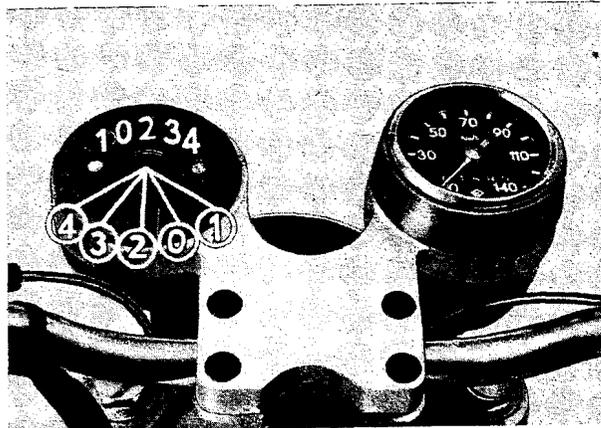
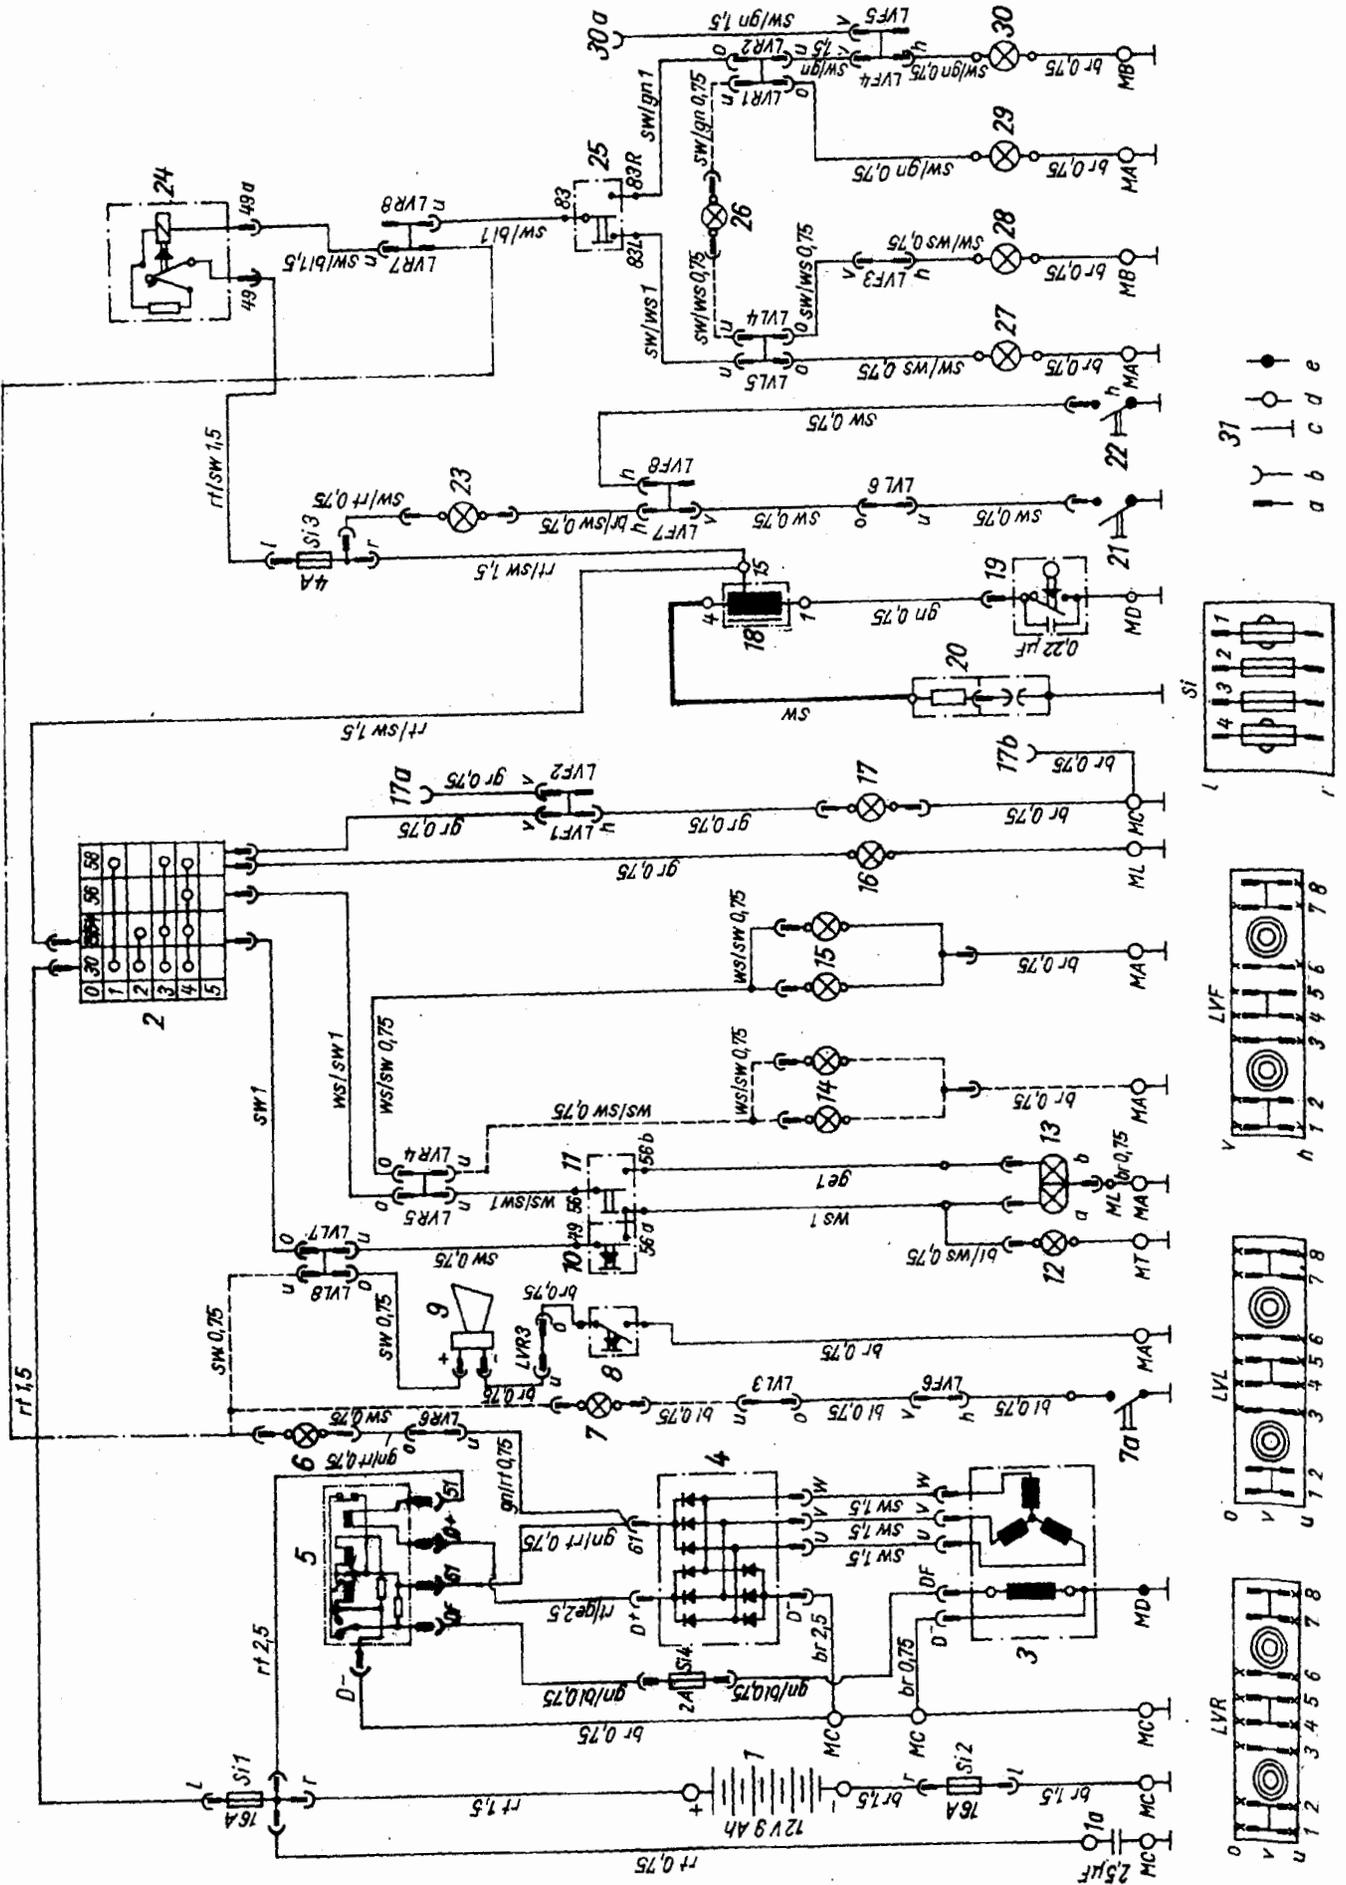
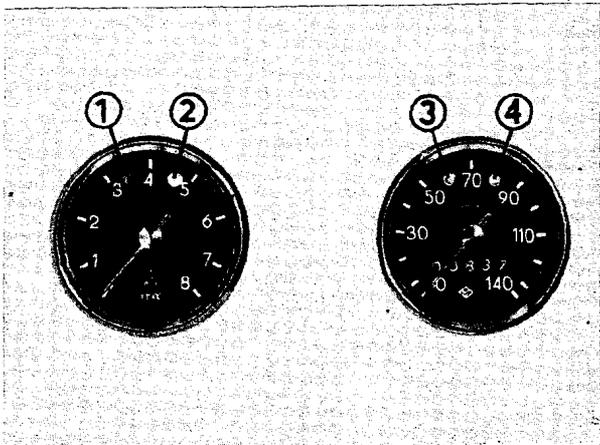
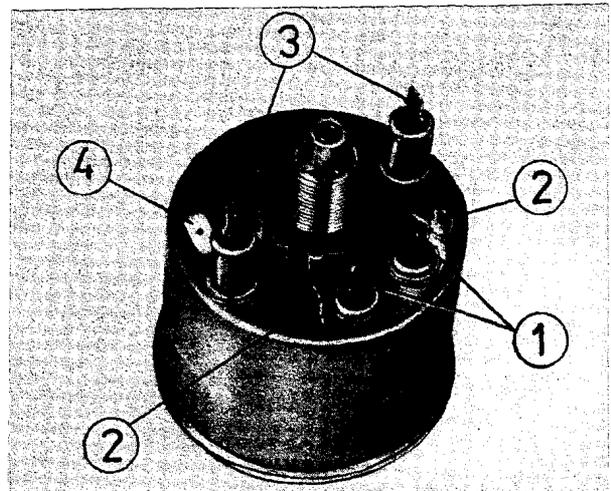

Fig. 176. Switch positions of the ignition-light switch
Fig. 184. Circuit diagram
Fig. 185. Arrangement of the tell-tale lights
Fig. 186. Arrangement of the lamps in the instruments
[It is used to switch the following (see Fig. 176 and Wiring Diagram, Fig. 184):
The circuit diagram, Fig. 184, gives the required data on course of cables and cable colours for repairs at the loads and the electrical system.
Legend for Fig. 184, Circuit diagram
Arrangement and meaning of the tell-tale lights are indicated in Fig. 185. As to the wiring and interconnection with other electrical devices, the necessary information is given in the Circuit Diagram, Fig. 184.
Tachometer and revolution counter are illuminated in night operation. For this purpose, the lamps marked by (3) in Fig. 186 are used which get ground via the flat plug connection (4). The function of the lamps indicated by (1) is illustrated in Fig. 185.